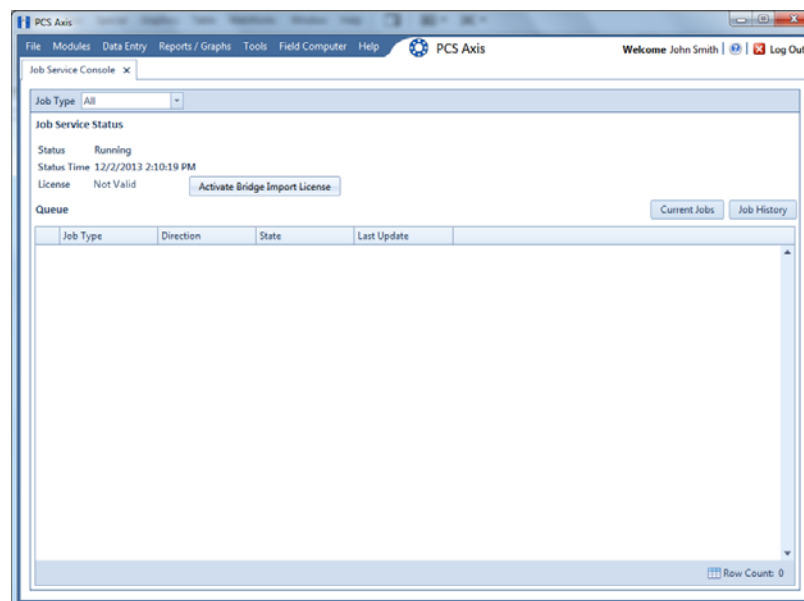

Figure 1-2. Job Service Console
- 2 Click **Tools** > **Job Service Viewer** to open the *Job Service Console* window (Figure 1-2)